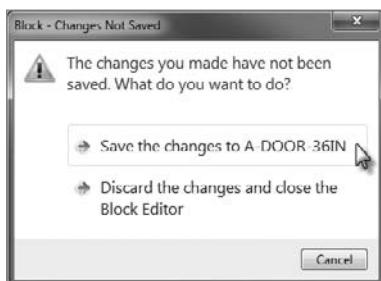

FIGURE 7.8 Choosing to save changes from the Block – Changes Not Saved dialog box
13. If prompted, choose Save The Changes To A-DOOR-36IN from the Block – Changes Not Saved dialog box, as shown in Figure 7.8.